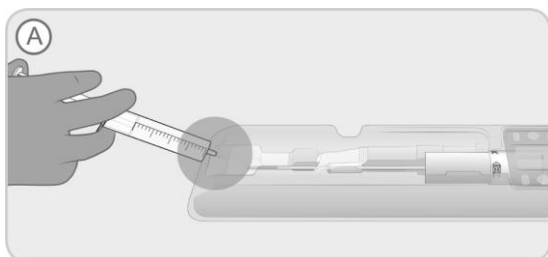

Figure 2. Fill tray recess with non-heparinised saline.
- A. Whilst the tray is lying flat on the sterile preparation area, fill the recess at the end of the tray (indicated on the tray with “A”) with sterile non-heparinised saline solution (approximately 20 cc) to submerge the implant, Figure 2.